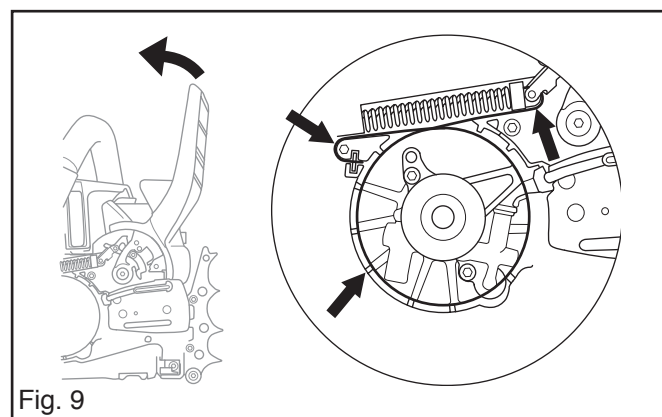

Fig. 9
10. Check that the brake strap is correctly positioned in the recess in the crankcase. See fig. 9.